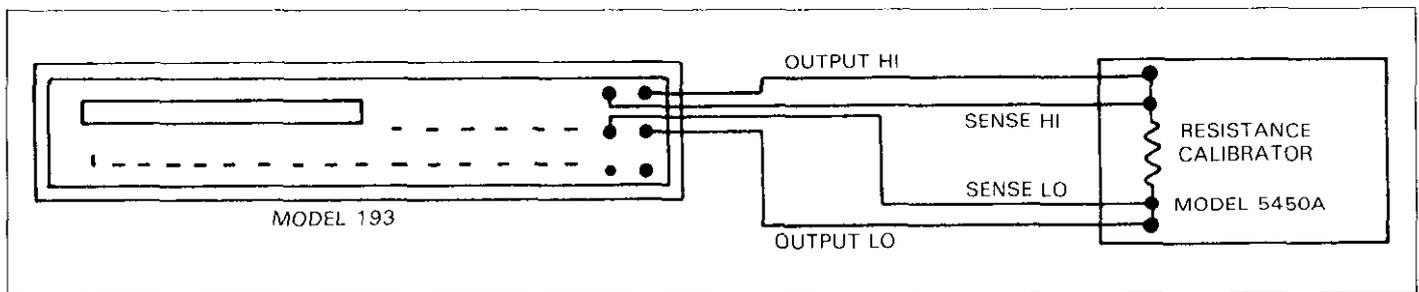

Figure 4-3. Connections for Ohms Verification (200Ω-20kΩ Range)
2. Using Kelvin test leads (such as the Keithley Model 1641) connect the resistance calibrator to the Model 193 as shown in Figure 4-3.
6. Utilizing Figures 4-3 and 4-4, check the 2kΩ through 200MΩ ranges by applying the respective resistance levels listed in Table 4-4. Verify that the readings are within the limits listed in the table.